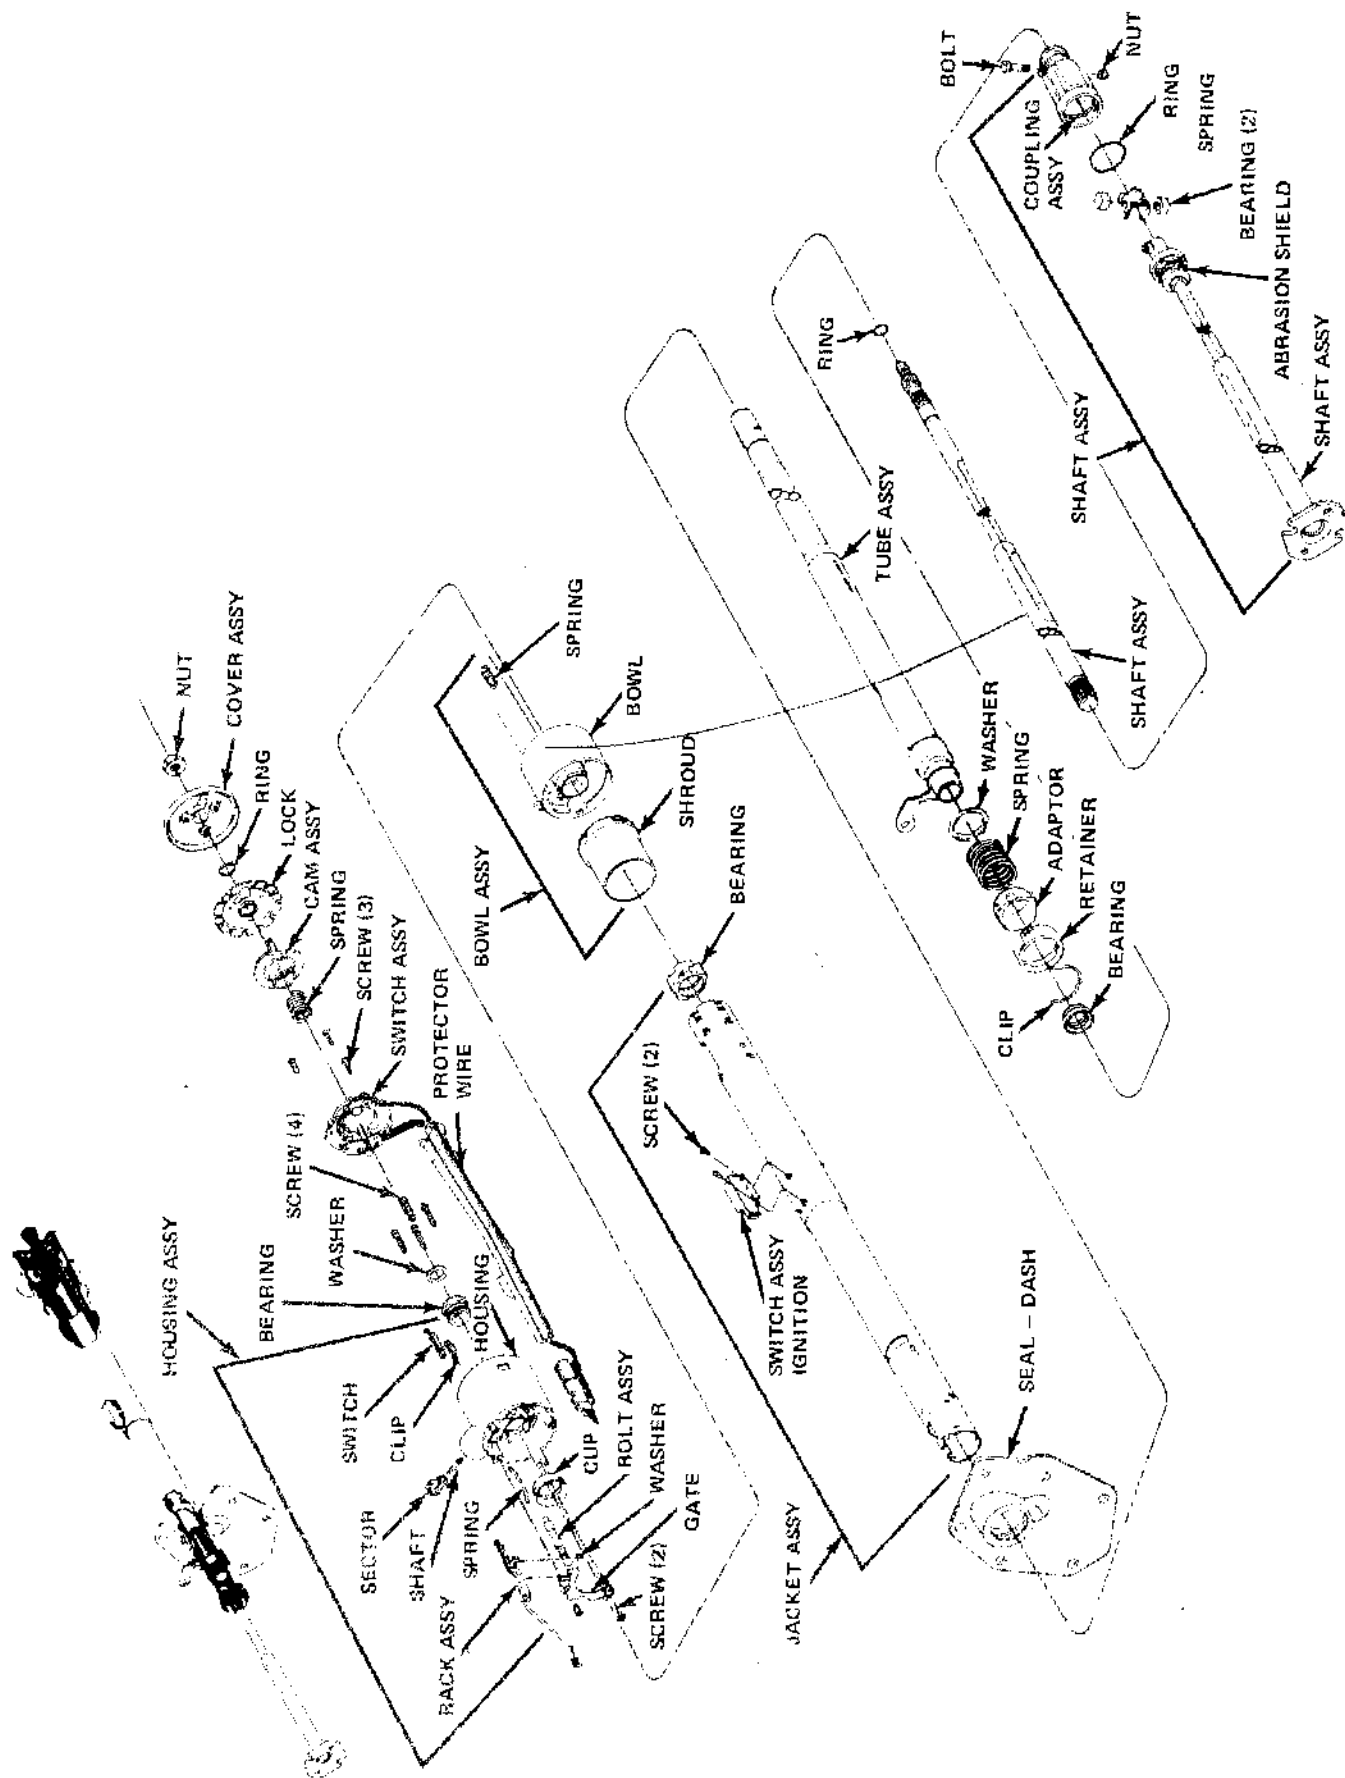

Fig. 11-18 Standard Column Assembly Sequence---Typical
**NOTE:** Refer to figure 11-18 for Standard Column Assembly Sequence.